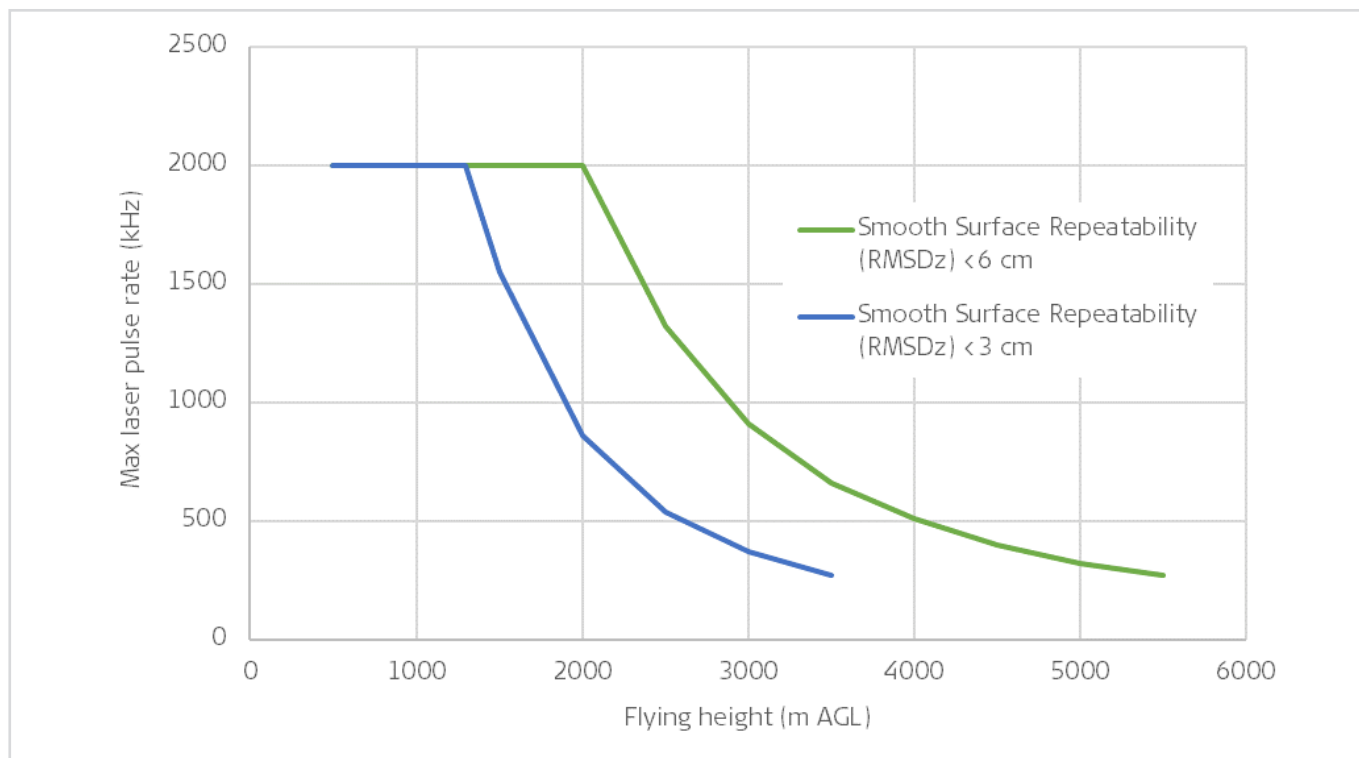

Fig. 7: Performance envelope. Note: higher accuracy and smoothness obtained at lower pulse rates for any given flight height.
**Flying Height:** The maximum recommended flying height for the LiDAR module is approximately 5500 m AGL. Fig. 7 describes the maximum pulse rate for target detection as a function of flying height. Recommended minimum range is 300 m.
**Pulse Rate:** The maximum achievable pulse rate of the system is related to the maximum flying height to be encountered. Fig. 7 summarises maximum pulse rates at various flying heights, assuming a 40-degree FOV. The range of pulse rate values is from 200,000 Hz - 2,000,000 Hz in 100-Hz increments.
**Multiple Pulses in Air:** The system is equipped with a gateless Multiple Pulses in Air (MPiA) feature, which allows increased maximum pulse rates over that offered by gated MPiA systems when any significant terrain relief is encountered. Up to 35 simultaneous MPiA zones can be accommodated per flight line. Maximum achievable pulse rates are shown in Fig. 7 and apply so long as no more than 35 MPiA zones are encountered within the flight line. Processing software automatically determines the proper zone for any return pulse. There is no significant loss of point density in the transition area between adjacent MPiA zones.